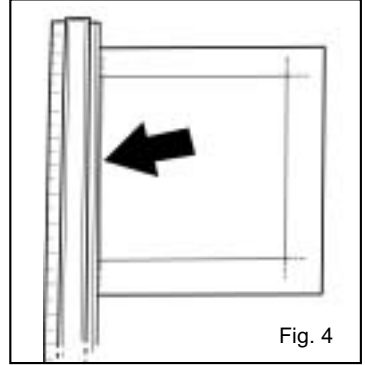
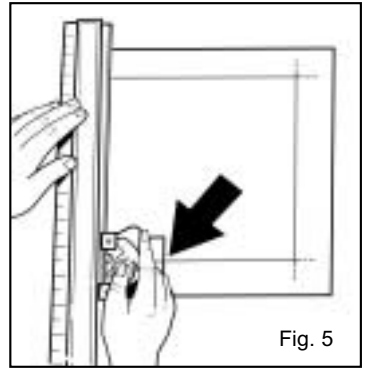

Fig. 4
Fig. 5
2. Place the mat face down on the Backing Sheet. Place the Straight Edge EXACTLY on the left hand border so that the outside edge of the channel is lined up along the pencil line. (Fig.4). Make sure that the bulk of the mat is to the right hand side of the straight edge. Having the mat on the left side of the straight edge will result in a reversed bevel cut. Attach the 302 Bevel Cutter to the straight edge by fitting the black nylon guides over the raised edge of the channel. Position the mat cutter so that the silver indicator line lines up with the bottom intersecting pencil line. (Fig.5).